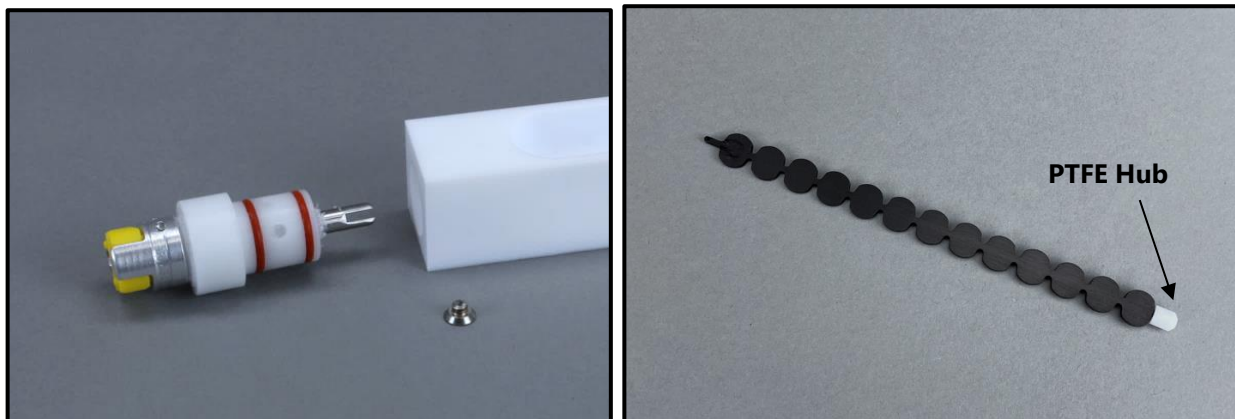

Figure 8. Replacement Sealed Bearing Unit (left) and Bubble Paddle (right)
- 2) Replacement sealed bearing units, VP 758M-3S, (see Figure 8) are available in the event the reservoir begins to leak. To remove the sealed bearing unit from the reservoir, remove the screw at the bottom of the reservoir and pull out the sealed bearing unit. It is secured in the reservoir by a friction fit from two O rings. The set screw at the top of the sealed bearing unit should **NOT** be removed.